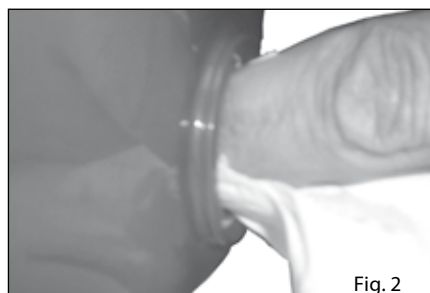

Fig. 2
- Clean the PTC pocket (remove old paste if any) (Fig 2)